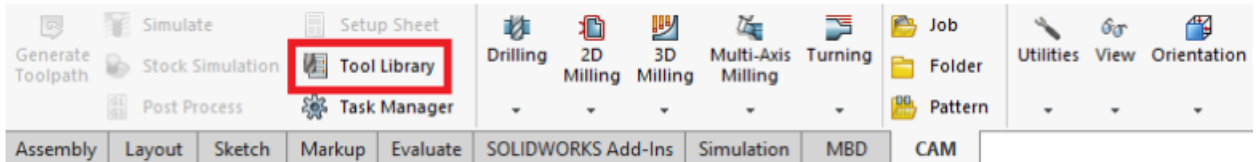

Figure 5: Tool Library Option
- ❖ Download the Tool library file from blackboard and import into Solidworks using the options “Tool Library” as shown(Fig 5):